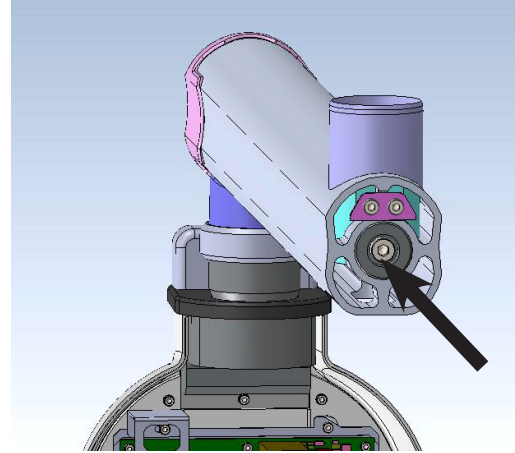

Figure 24: M8x25 positive lock screw with spring & flat washers (Use 6mm Alley key).
- Remove the M8x25 positive lock screw along with M8 plane and spring washers using 6 mm allen key as shown in Figure 24 .
- Fix the M8x25 positive lock screw along with M8 plane and spring washers using 6 mm allen key as shown in Figure 24 .